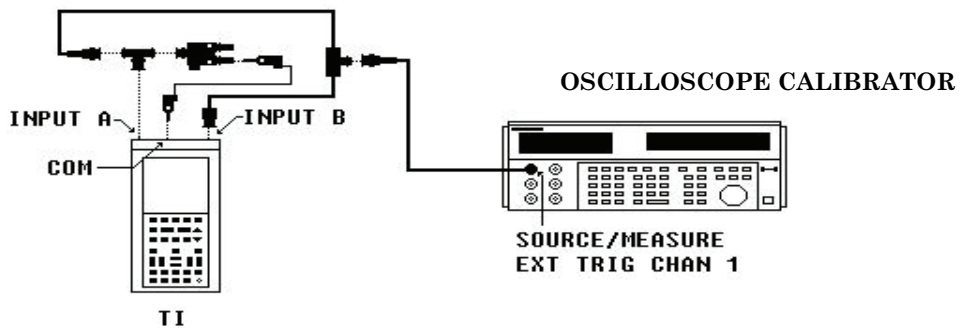

Figure 10. Attenuation and gain.
- (11) Toggle **▲ or ▼** to display/highlight (**▼ or ▼ CAL 5**).
- (12) Press **(F5) READY**, then wait till display/highlight **READY** is not highlighted.
- (13) Connect equipment as shown in figure 10 below: